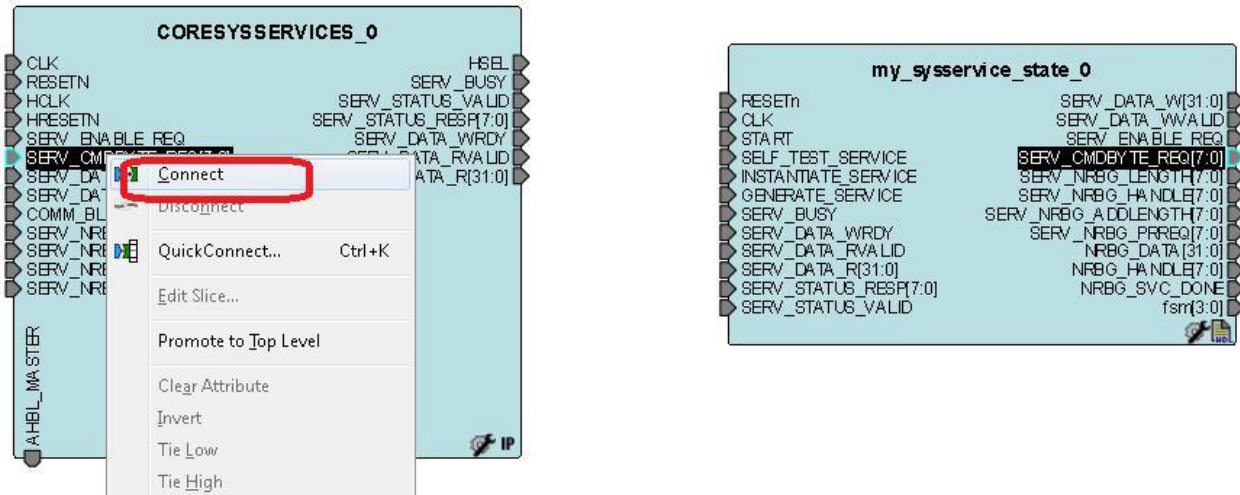

Figure 22 Connecting Ports Between CoreSysServices_0 and my_syssservice_state_0
- Select the two signals you want to connect using the CTRL key, then right-click and select **Connect** to connect them, as shown in Figure 22.